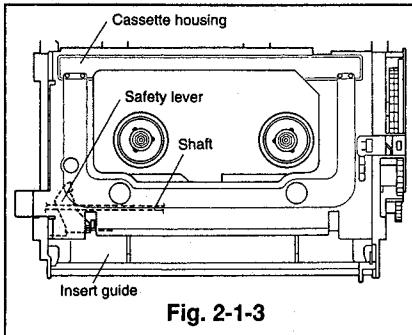

Fig. 2-1-3
- ③ Slowly lower the cassette housing onto the main plate of the deck.
- ④ Make sure the record safety lever enters between the insert guide of the cassette housing and the shaft as shown in Fig. 2-1-3. Align the four points (Ⓒ, Ⓛ, Ⓝ and Ⓟ), located on the bottom of the housing with the matching holes in the deck. Secure the cassette housing on the deck with the two screws (Ⓐ and Ⓑ).